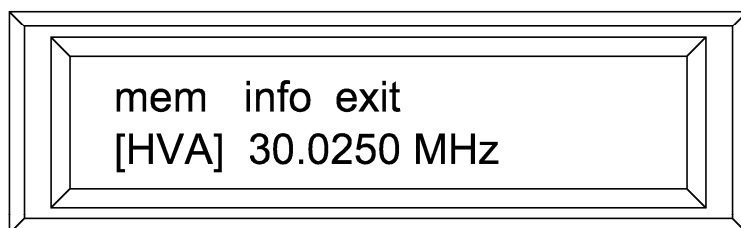

Figure 3.4. Selection of HXV or HVA mode function
- Step 2.** Press the “▼” button once so that the second digit (thus in steps of one MHz) of the frequency is selected for adjustment, *figure 3.4*.